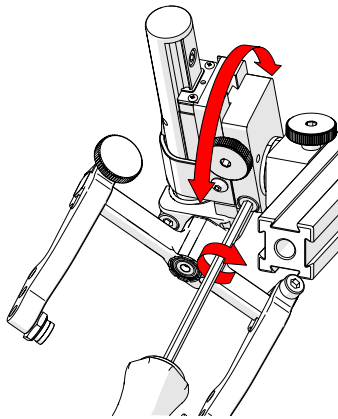

Fig. 91 - Rotate to position
3. Rotate the main body of the probe holder until it is at the desired angle (Fig. 91).
4. Tighten the longitudinal adjustment screw (Fig. 91).